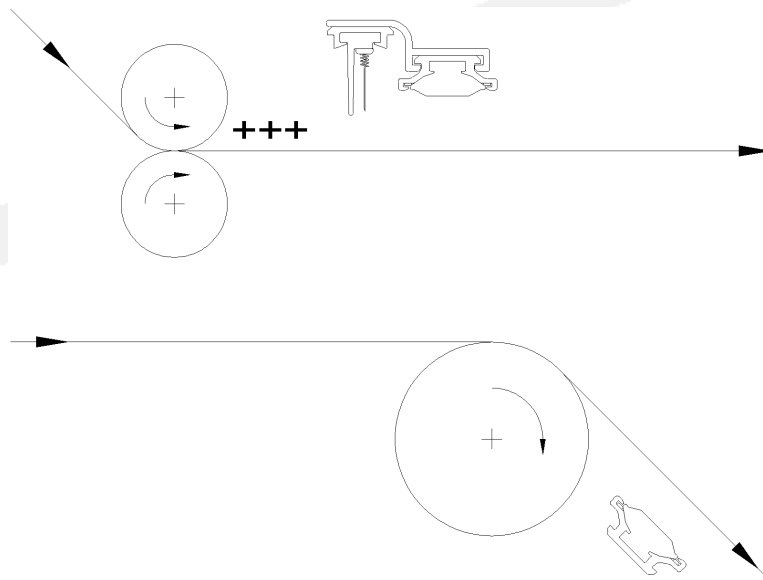

Figure 1
- The installation location should be just before the point where the problem occurs, and just after the last web contact with rollers, guides, or any surface that might generate a static charge. (see Figure 1)